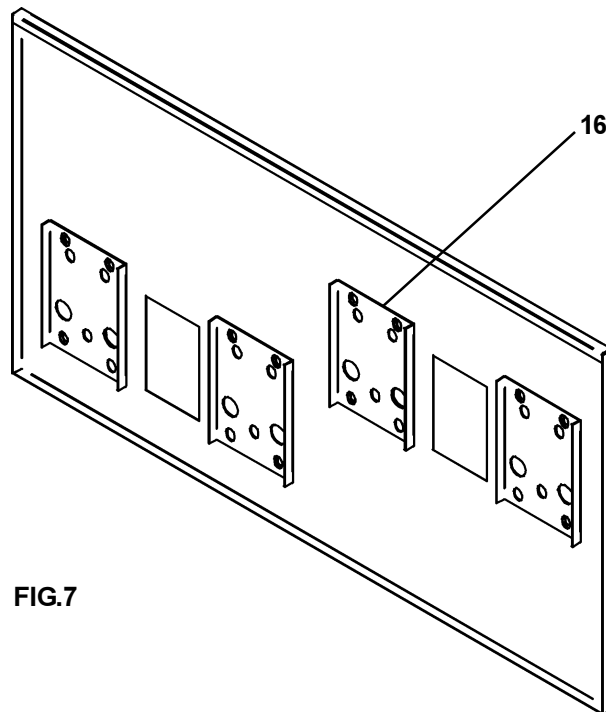

FIG.7
Installing back panel: When installing back panel without mounting plate accessory, attach (4) channel braces as shown in Fig. 7. Remove the protective backing from the tape installed on the brace. Line up the corresponding holes in the brace and back panel and press firmly in place.